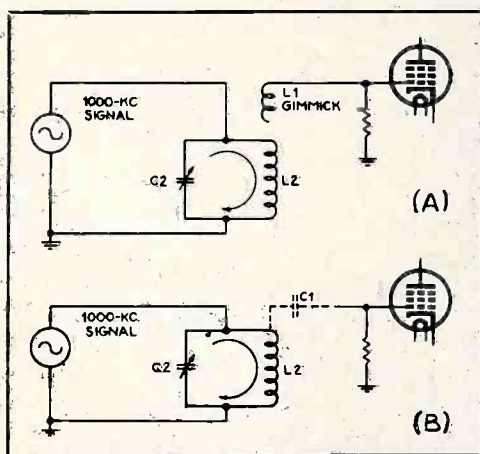

Figure 1
An illustration will help explain the full extent of a gimmick. In Fig. 1(A) is shown a coil on wire L1 with one end tied to the control grid of a tube and the other end open. Near this open end of the coil there is an inductance L2. The inductance L2 is part of a 1000-kc resonant tank circuit of which C2 is the variable capacitor and the tank circuit is excited by a 1000-kc signal. Due to this excitation, a circulating alternating current exists within the tank circuit and energy is available from this tank. Placed very close to the inductance of the tank is the open end of L1, which forms, effectively, one "plate" of a capacitor. The high side of L2 represents the other "plate" of a capacitor and together both "plates" form an effective capacitance, which is small in value, some of the energy from the tank circuit being fed into the grid of the tube through the L1 gimmick.
An equivalent circuit with the gimmick replaced by a capacitor is shown in Fig. 1(B). Since it may not be evident exactly how a capacity is formed between L1 and L2, it will be best to study the formation of a capacity from the physical point of view.